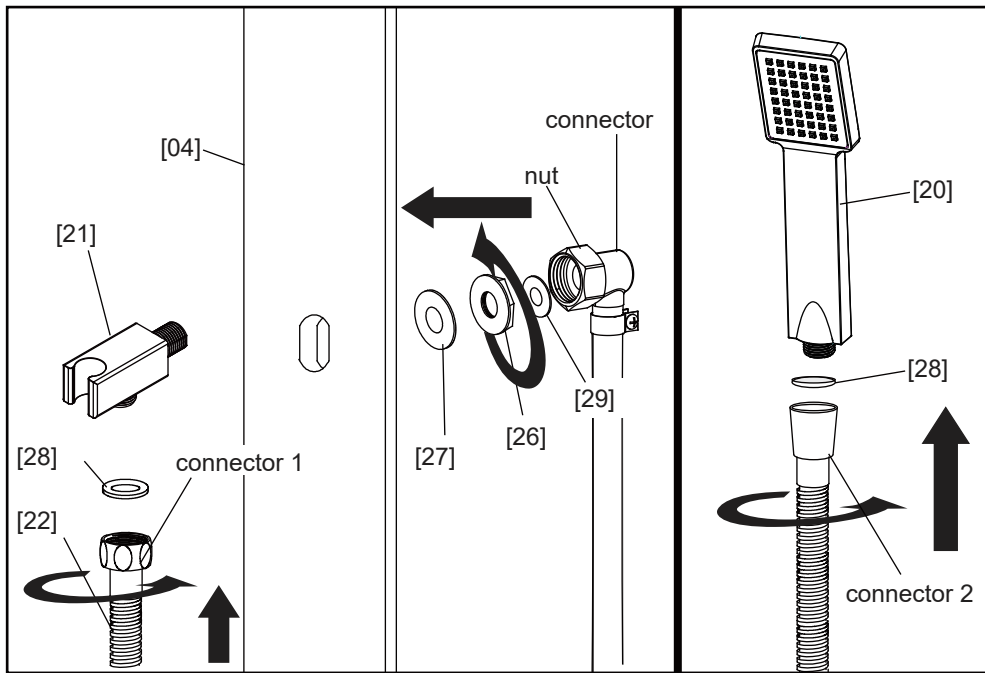
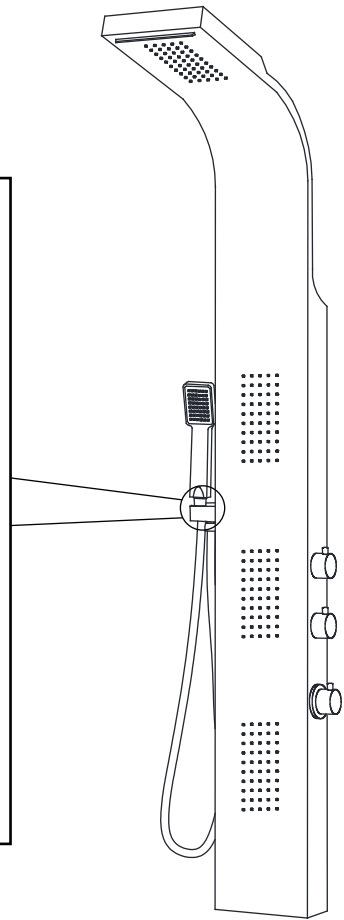

Fig 3.1
Fig 3.2
- 3-1** Install the **Hand Shower Holder [21]** through the hole from the left of **Body [04]**. Make sure the shower hose connector faces downward. (Fig 3.1)
- 3-2** Slide the **Washer [27]** to the **Hand Shower Holder [21]** from the inside of **Body [04]** and secure it by tightening the **Nut [26]**. Do not over tighten. (Fig 3.1)
- 3-3** Install the **connector** with **Washer [29]** in it to the **Hand Shower Holder [21]**. Then tighten the **nut** of the **connector** to secure. (Fig 3.1)
- 3-4** Connect the **connector 1** of **Flexible Hose [22]** to **Hand Shower Holder [21]** and **connector 2** to **Hand shower [20]**. Tighten the connectors to secure. Make sure there are washers inside the connectors. (Fig 3.1, Fig 3.2)